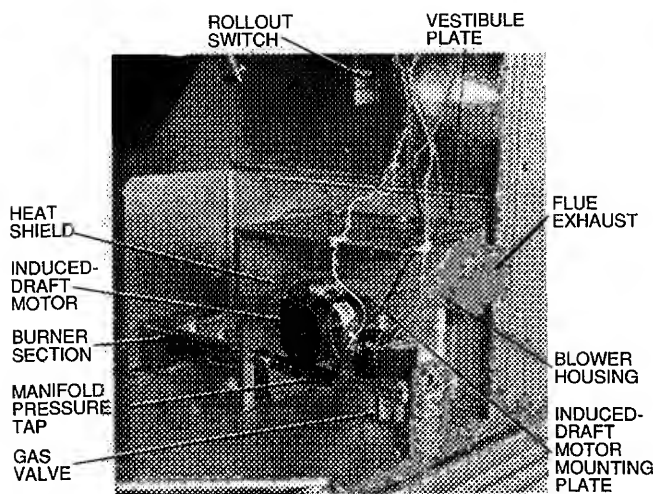

Fig. 36 — Burner Section Details
3. Remove the 7 screws that attach induced-draft motor mounting plate to blower housing (Fig. 36).
REMOVAL OF GAS TRAIN (Fig. 36 and 37)